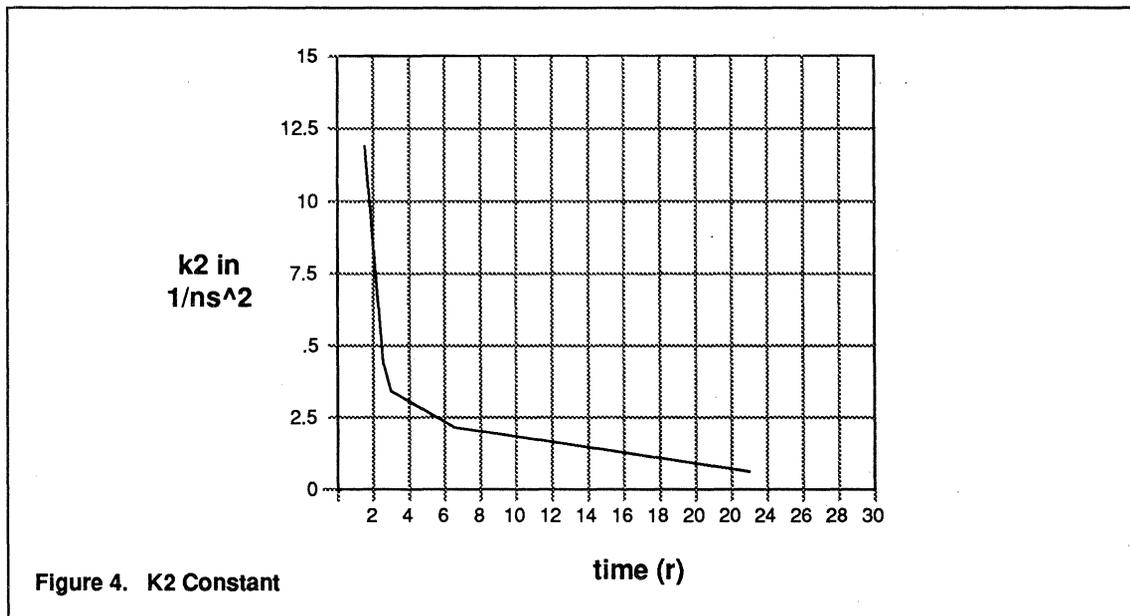

Figure 4. K2 Constant
The time from  $\Delta_0$  until the dot density equals zero was defined to be the "time to metastable release" or simply  $\text{time}(r)$ . The relationship between  $k_2$  and  $\text{time}(r)$  is given below in (5), and shown graphically in Figure 4. Recall that  $\text{MAX}=2.5 \times 10^6$  and  $a=\log(e)$ .